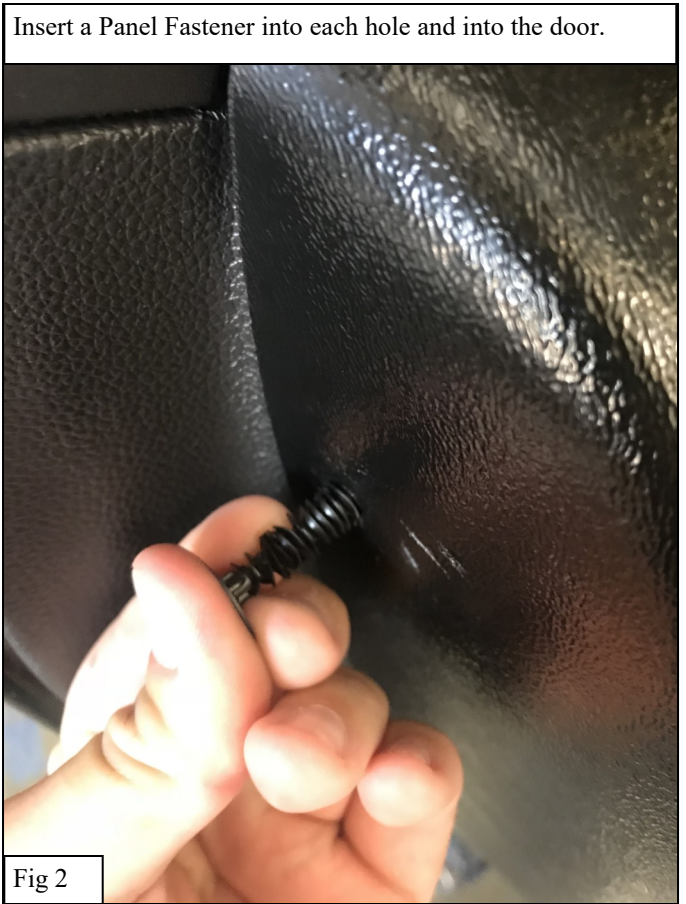

Fig 2
5. After drilling all of the holes, fasten the Door Cover Panel (1-2) using the provided Panel Fasteners (3). See **Figure 2**.